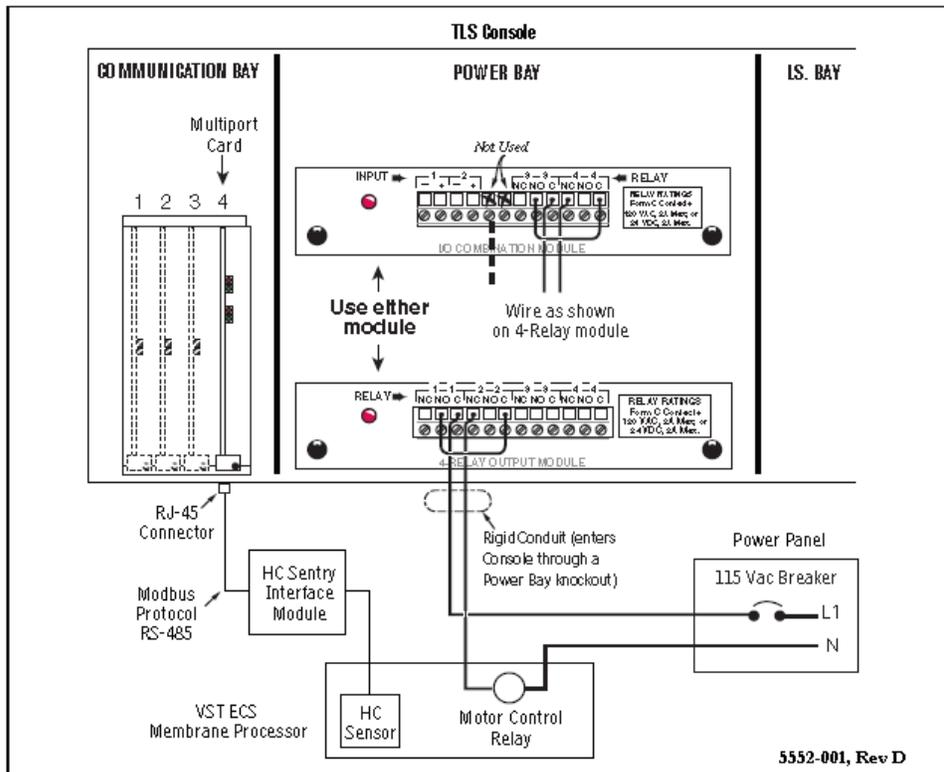

Figure 34: VR TLS Multi-Port Card Connection to the HC Sentry Module
- See Figure 34: Page 14-80 - TLS / HC Sentry RS-485 Cable for the wiring diagram.